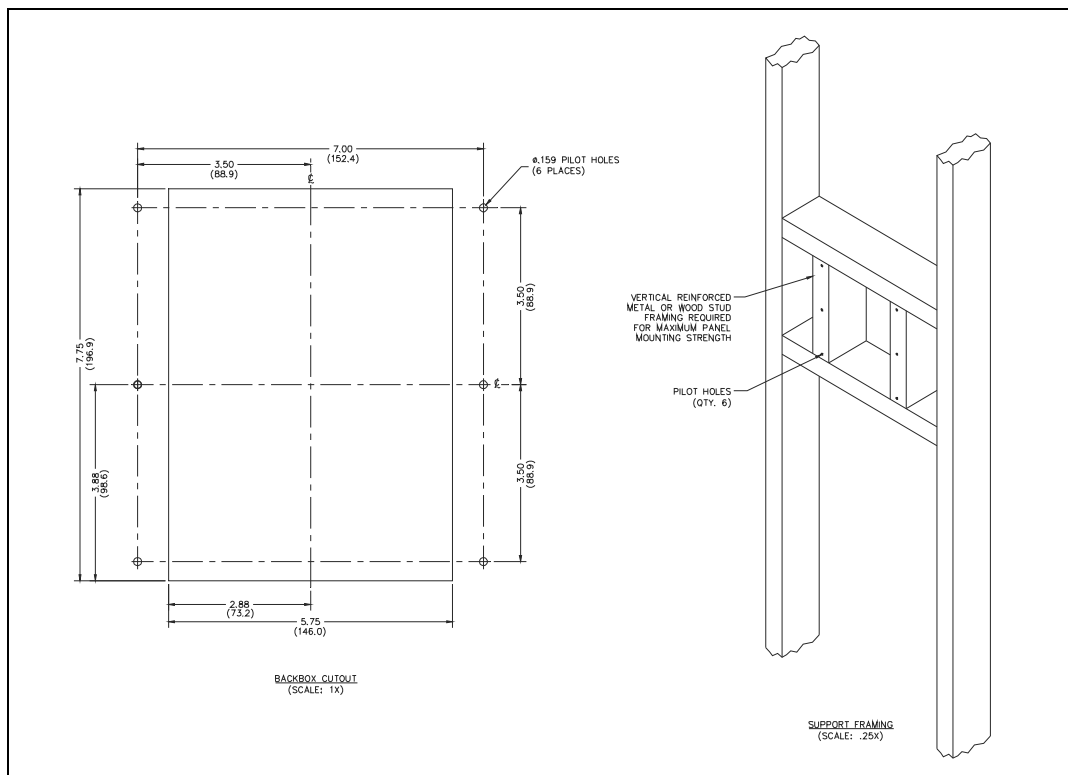

Figure 15. Cutout Detail and Framing Support for Models 277-002BH/-002BHAC
NOTE: See the cutout and support framing details for installation planning (see Figure 15).
6. Attach the front panel assembly to the mounting surface using the six supplied #10-32 thread-cutting security screws (see Figure 15).